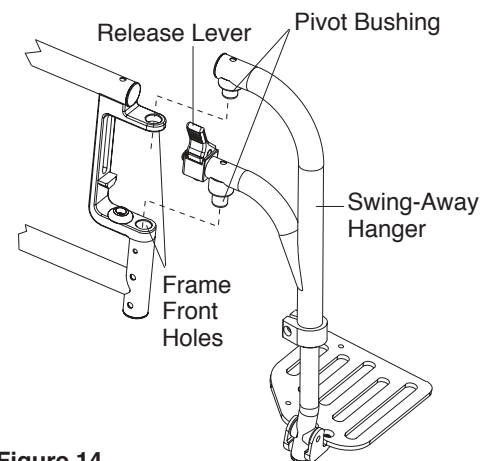

Figure 14
To swing the hanger inward or outward, push or pull the release lever and push the hanger inward or outward, as desired. See Figure 14.
1. Align the pivot bushings with the frame front holes, sliding in the bottom pivot first. This must be done with the hanger slightly off center of the frame. See Figure 14.